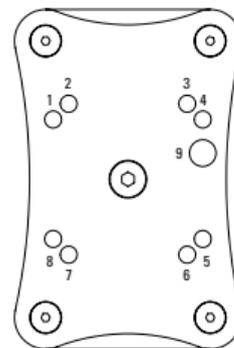

Figure 4
5. Fasten the accessory device or cradle to the top of the *Mounting Plate* (**Figure 4**) utilizing appropriate hardware. The eight "AMPS" pattern holes (1-8) will accommodate #8 or M4 screws. The larger hole (9) will accommodate a $1/4$ " or M6 screw. Alternatively, double sided adhesive tape or hook and loop fastener may be used.